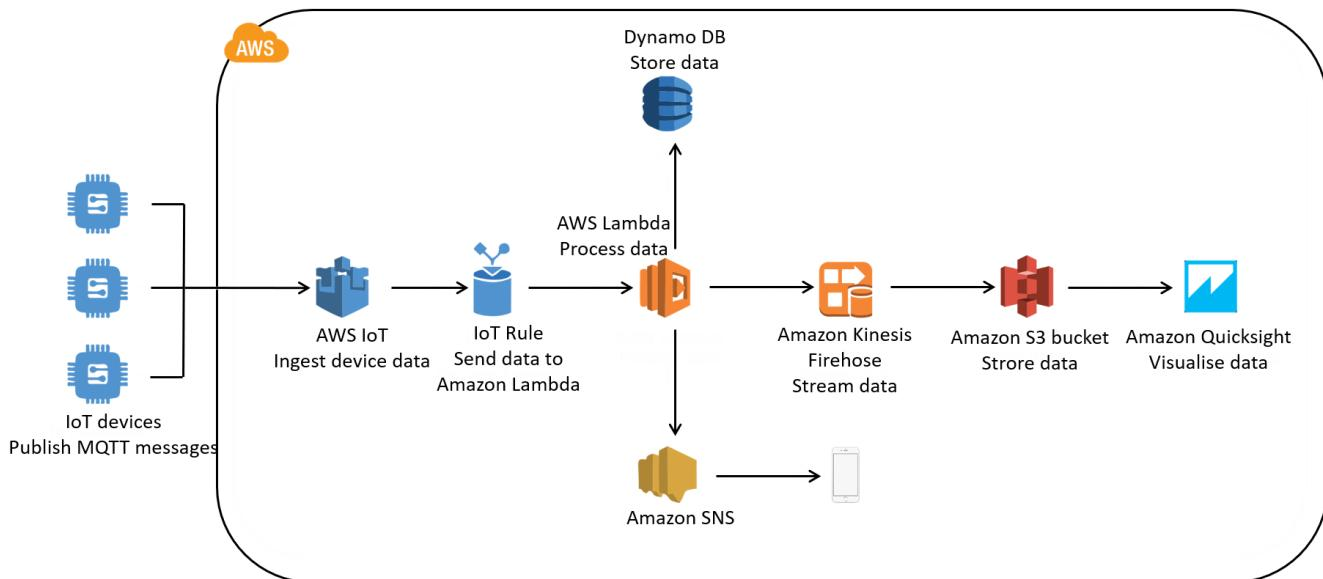

Figure 5: AWS example
**Amazon AWS:** Figure 5 shows a sample application using Amazon AWS. In this example, the devices are provisioned to connect securely to the Amazon AWS IoT core. The incoming data is than processed using the AWS lambda function. Using the thresholds stored in the Dynamo DB, the lambda function detects the thresholds and sends notifications to the user using the notification service (Amazon SNS). Further, the data is streamed to an S3 bucket using the Kinesis Firehose streaming service. The stored data can be used for visualization using Amazon Quicksight service.